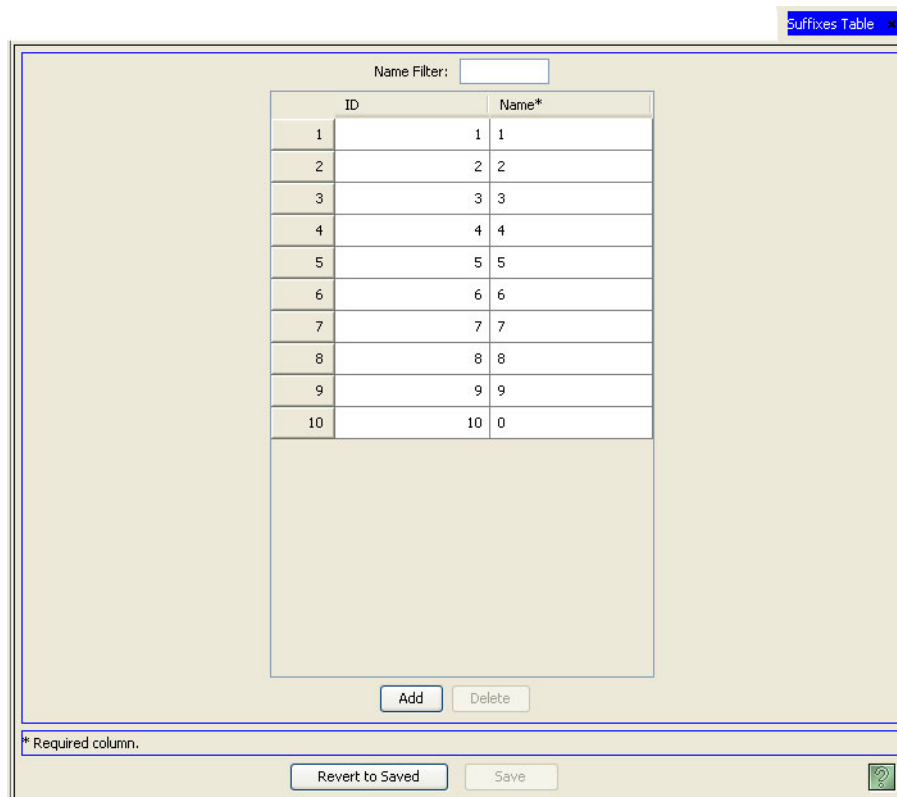

Figure 10-32. Suffixes Table
- 2 From the Navigation area, select the 'Views' pane and then 'Suffixes'. The 'Suffixes' table appears, as shown in Figure 10-32.